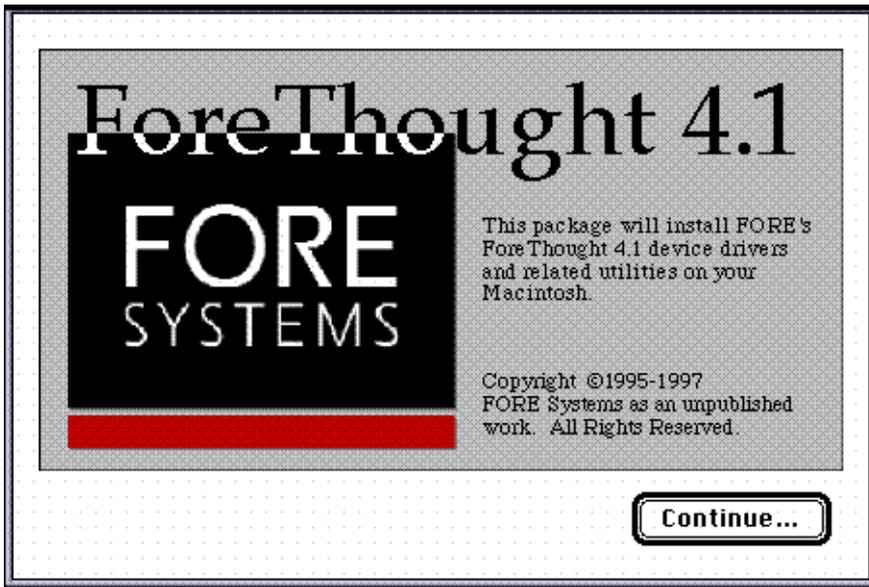

Figure 3.2 - ForeThought 4.1 Splash Screen
2. Double-click on the Installer icon. The *ForeThought* 4.1 splash screen appears, as shown in Figure 3.2.